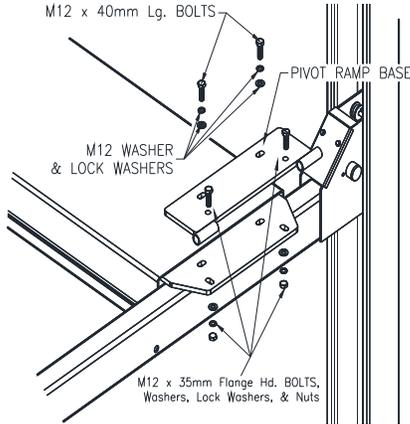

Fig 29 – Base Installation
- 3) Install the pivoting ramp base with two M12 x 40mm Lg. and two M12x35mm Flange head bolts, washers and nuts provided in the kit, and the lock washer and washer from the previous step, **Fig 29**. Note the location of flange head bolt in Fig 29. Repeat for other runway.